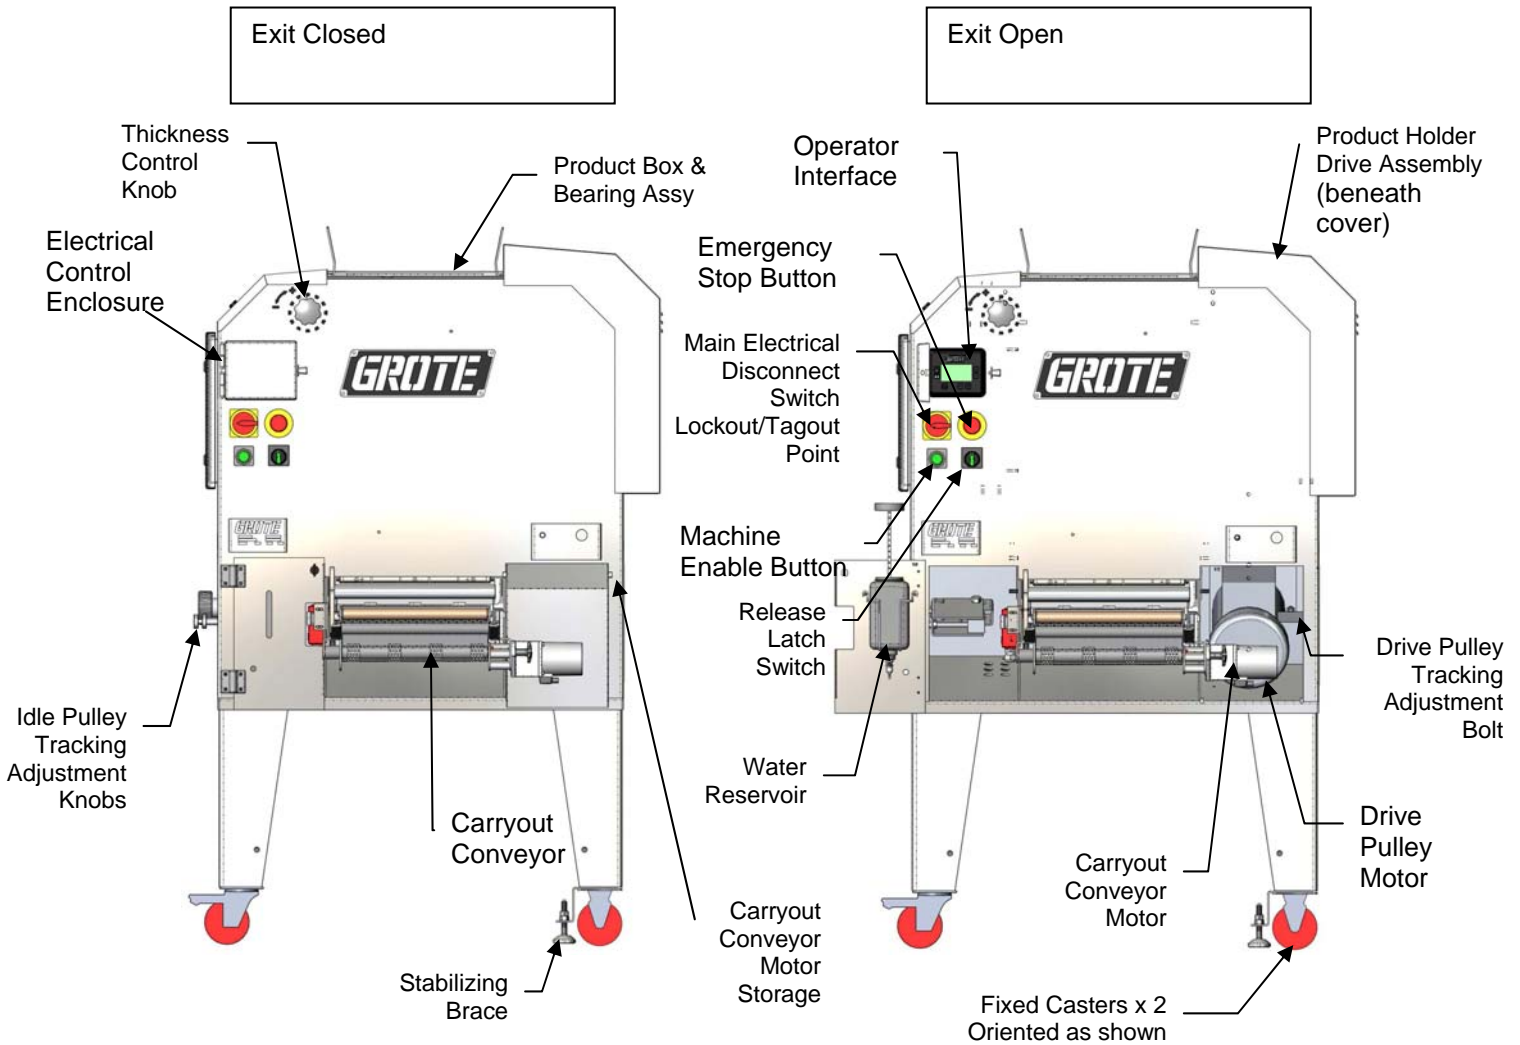

Figure 1. Exit View of the Model 613-VS2 Multi-Slicer
5.  **WARNING** The two fixed casters are both placed under the stabilizing bar in the orientation shown in figure 1.